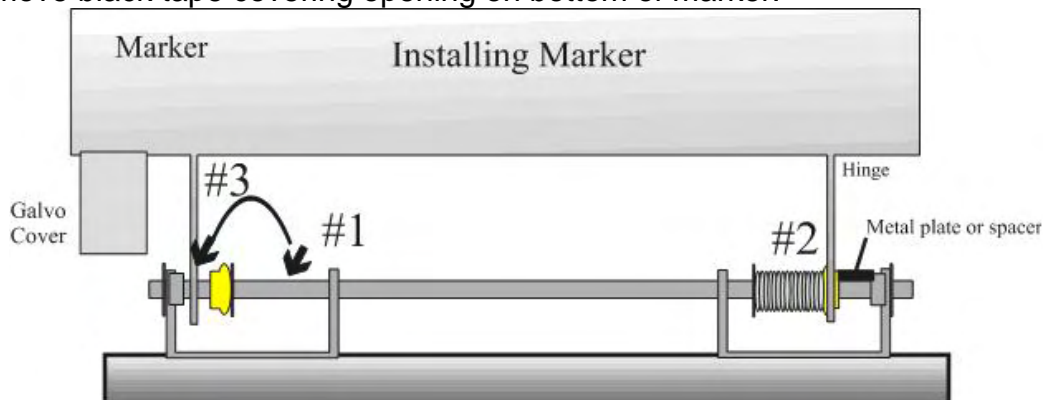

Figure 2 – Marker Assembly front view
1. Place the left hinge onto the shaft. Place the right hinge onto the support post to the right of the spring. Be careful to not put the right hinge inside of the spring. If you do so, you will need to pry it out with a screwdriver. (see **Figure 2**)
2. Slide the right hinge onto the brass bushing. Once the right side is on the brass bushing, the left hinge can be lifted up and pulled to the left until you are past the left bushing. (see **Figure 2**)
3. Place the left hinge on the support post and let the tension spring pull the marker onto the bushing. Wiggle the marker slightly until the bushing snaps into place. Reconnect the shocks and locking caps. Inspect the hinge to make sure the bushings are flush to the hinge. (see **Figure 2**)